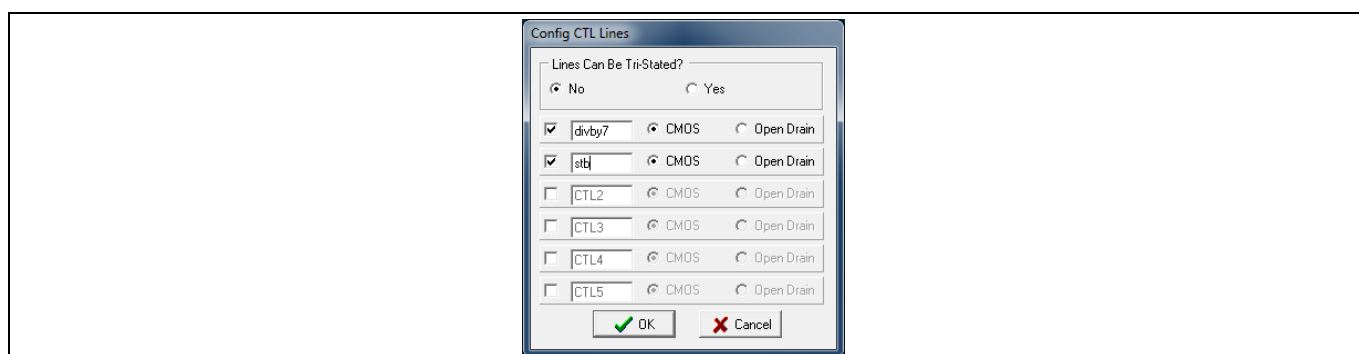

**Figure 23 GPIF 48-MHz Clock Divided by 2 and 4**
21. Probe P2 pin 11 (CTL0=divby2) and P2 pin 10 (CTL1=divby4). You should see waveforms similar to Figure 23.